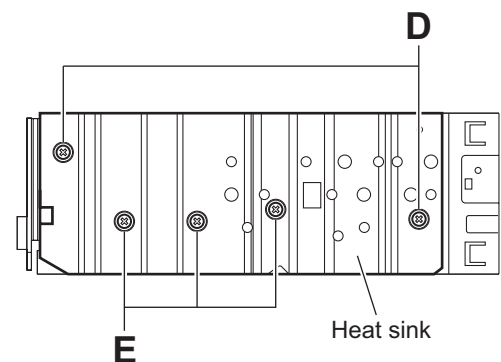

Fig.5
3.1.4 Removing the heat sink (See Fig.5)
3.2.4 Removing the clamper unit (See Fig.5 ~ 9)
3.2.5 Reattaching the clamper unit (See Fig.5 ~ 9)